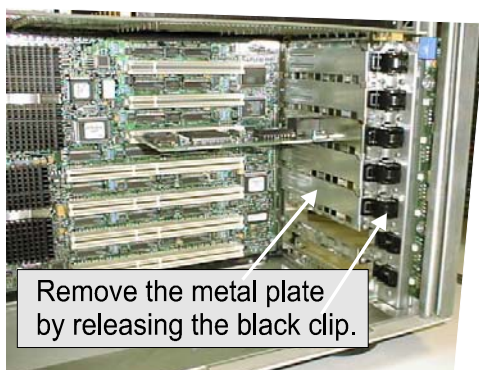

Figure 2-5. Remove the Metal Plate
2. Remove the metal cover plate from the slot's access port (at the back of the cabinet) usually by releasing the black clip as shown in Figure 2-5.